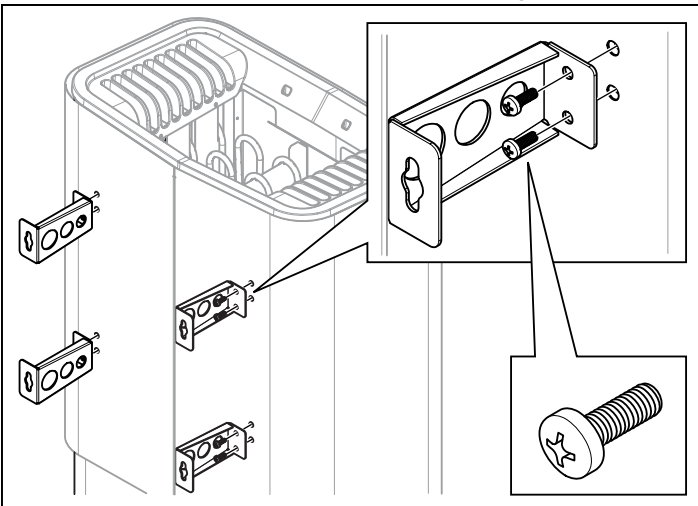

Figure 10: Attaching the brackets to the heater
- Unscrew the first two screws on the back of the heater and screw one of the four brackets into place. Repeat the procedure until all of the brackets are fitted see Fig. 10.